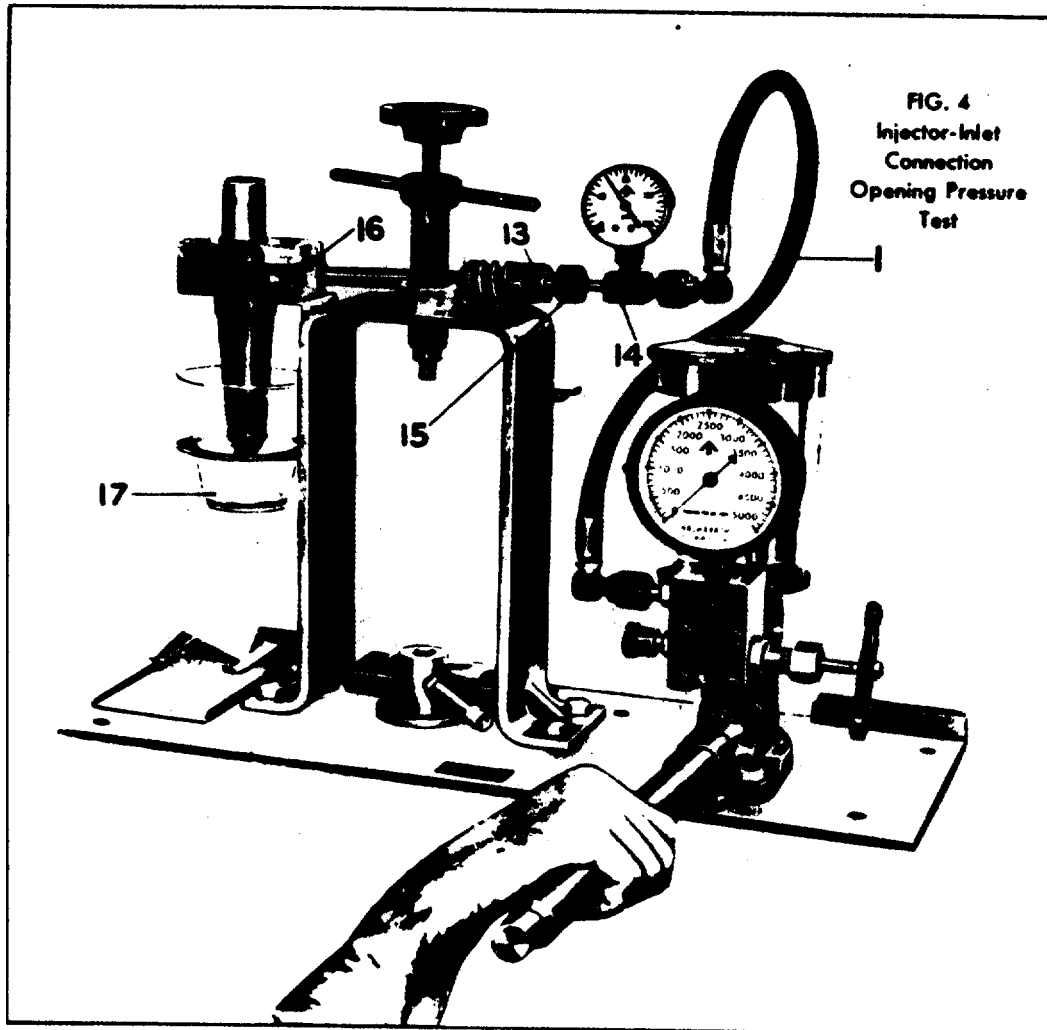

FIG. 4 Injector Inlet Connection Opening Pressure.
Figure 4 illustrates set-up to determine opening pressure of injector and inlet tube in series. Using ADAPTER (13), connect FLEXIBLE CONNECTOR (1) to inlet connection with LOW PRESSURE GAUGE (1L) in system. Opening pressure of inlet tube and injector inlet valve in combination should be 10 to 15 psi. Higher than opening pressure of inlet connection check valve. STUD (16) is mounted on yoke on top of stand and engages hole in injector body housing; spray can be caught in CUP (17).